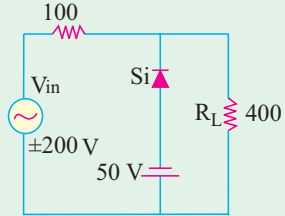

Fig. 52.54
6. What is the waveform of the voltage across R_L in Fig. 52.54 ?